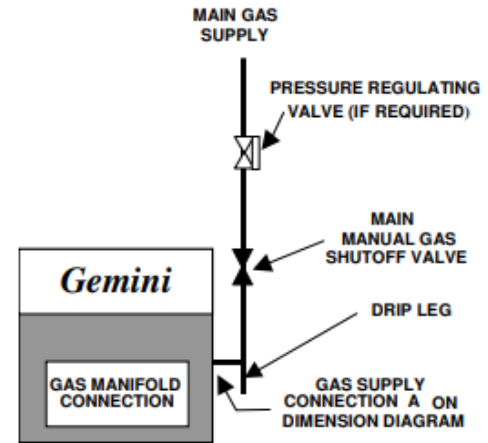

Figure 3-6, Recommended Gas Supply Line Layout
- c) Refer to Figure 3-6 for the recommended layout of the gas supply lines. Refer to Figures 3-1, 3-2, or 3-3 depending on which model you have, Detail A for the location of the $\frac{3}{4}$ inch gas inlet of the steamer.
- d) Install a manual shut off valve between the gas supply and the steamer. See Figure 3-6. From now on this valve will be referred to as the Main Manual gas valve.
- e) It is recommended that a sediment trap (drip leg) be installed in the gas supply line. See Figure 3-6.
3. A main disconnect switch and a separate fuse or breaker should be installed near the unit as shown in Figure 3-6. See Figures 3-1, 3-2, or 3-3 for the steamers power requirements. Throughout the remainder of this manual the fused disconnect switch is referred to as the main external power switch.